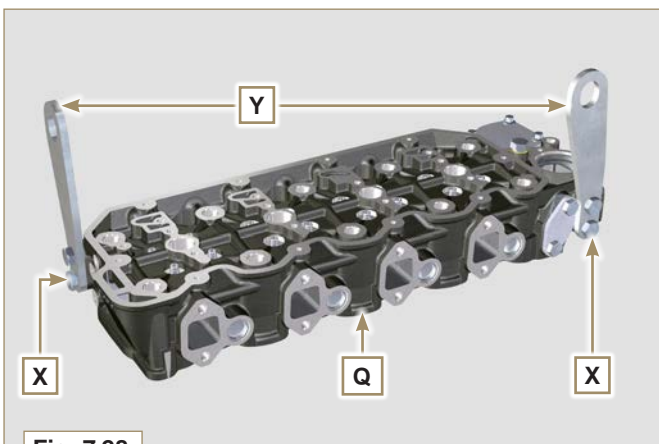

Fig. 7.28
- To lift cylinder head **Q**, only use both eyebolts **Y** provided by KOHLER (refer to Fig. 7.28).